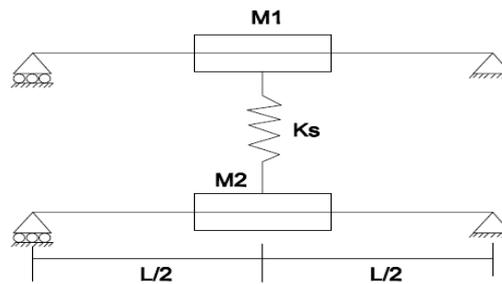

Figure 3
8. For the system shown in Figure 3, write the frequency equation in terms of  $M_1$ ,  $M_2$ ,  $E_1$ ,  $I_1$  and  $K_s$ . Neglect the mass of the beams. [14 M]